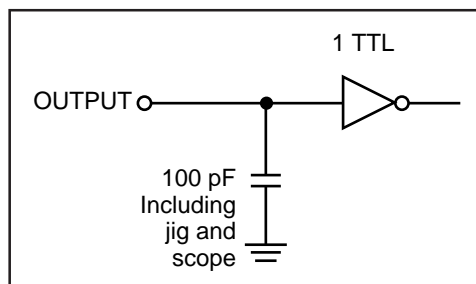

Figure 1
Output Load	See Figures 1
1. Test conditions assume signal transition times of 5 ns or less, input pulse levels of 0.4V to 2.2V and output loading specified in Figure 1.